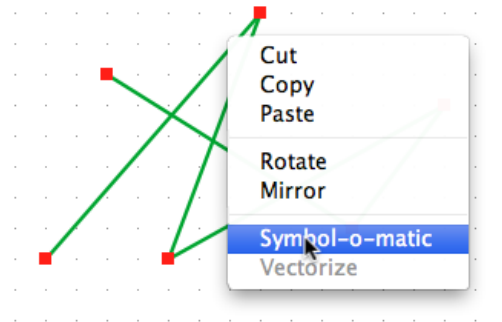

Figure 2.22.: The pop-up menu appearing with a right click allows to transform drawing elements into a symbol
- Select what you just drawn and right click on it. A popup menu appears, such as in figure 2.22.